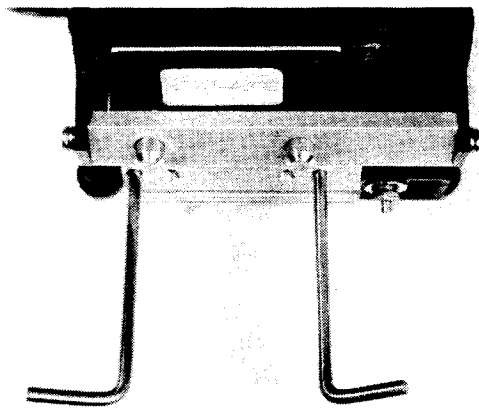

Figure 2-11. Print Head Alignment
- Insert the two print head alignment tools (8710-0693) into the alignment holes (Figure 2-11).